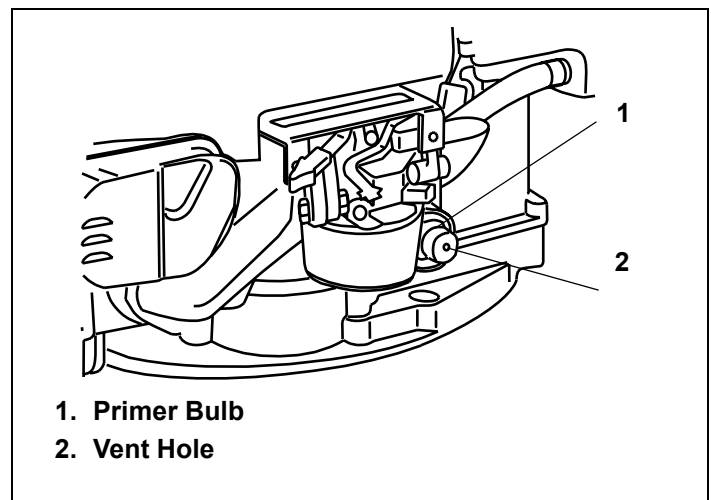

Figure 13. Primer Bulb
5. Push primer three times, making sure to cover vent hole when pushing. See Figure 13.